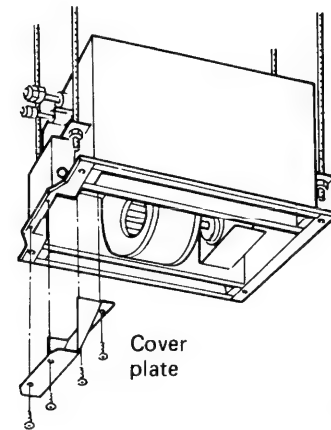

Fig. 14
- b) Unscrew the cover plate of the electrical component box. Fig. 14